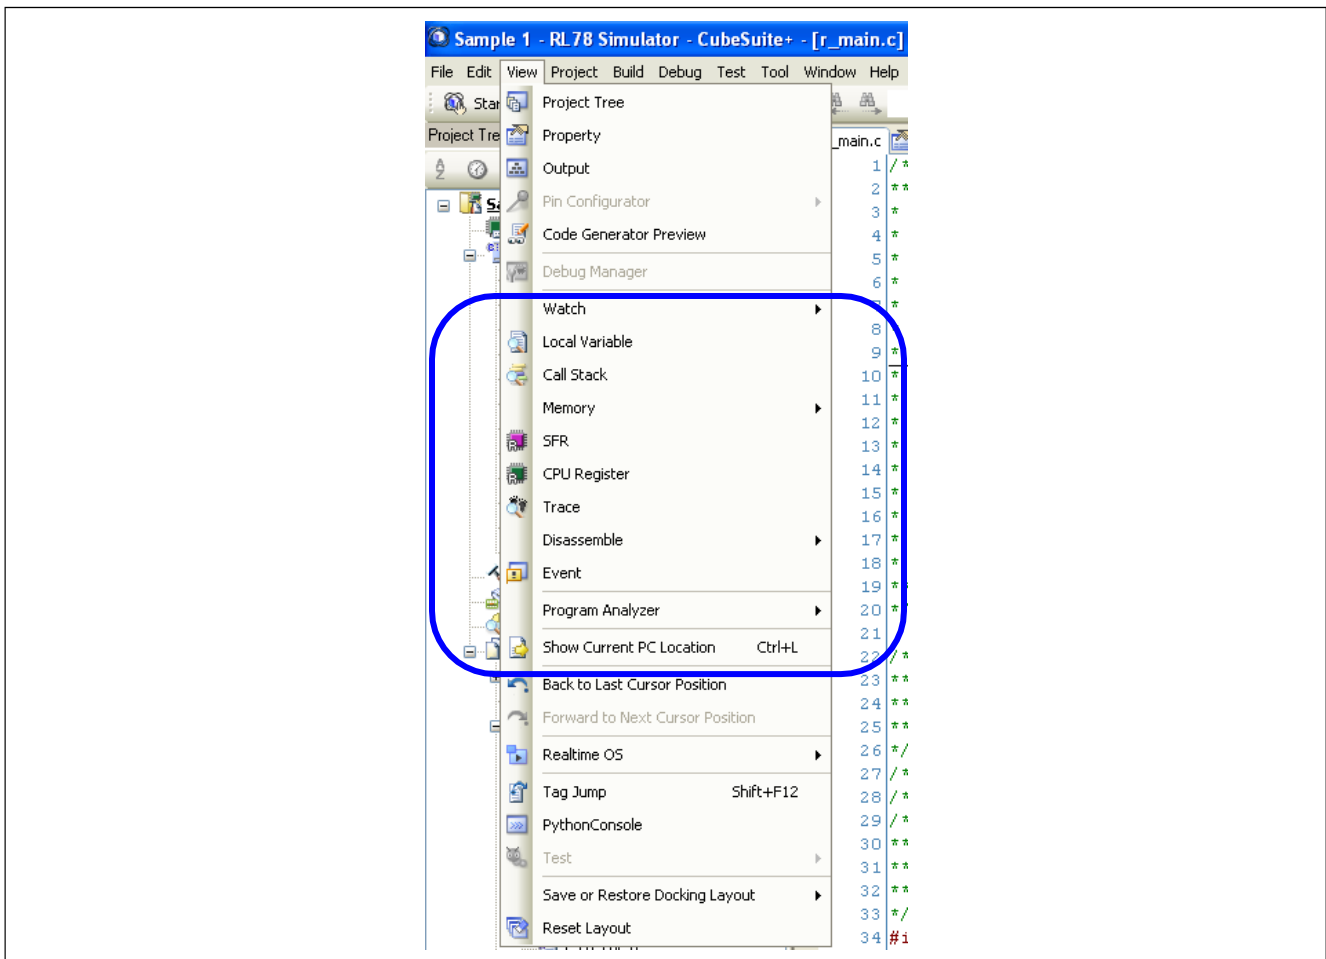

Figure 3 Options available to support debugging
2. When the connection to debug tool is established, user observes that the various options in [View] menu is active and allows user to select the options. Figure 3 shows the options available for user’s selection.